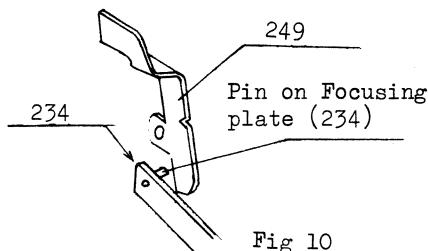

Fig 10
Fix the helicoid assembly temporarily, as shown in Fig. 9, with four pieces of Screw (241). The pin on Focusing plate (234) has to be located inside Focusing bar (249) as shown in Fig. 10. Then, attach Jig (K 204209) on the camera body, and tighten four pieces of Screw (241), making sure of a proper engagement of gears between each gear on the jig and that on the helicoid assembly. Adjust the gear position so that each gear engages as tightly as possible, but not hurting smooth gear movement.